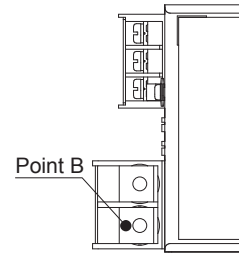

Fig.7.2 Temperature measurement point
- When wiring the load wire, select the wire in consideration of the heat generation so that the temperature of points A in Fig. 7.2 will be below the specified temperature.